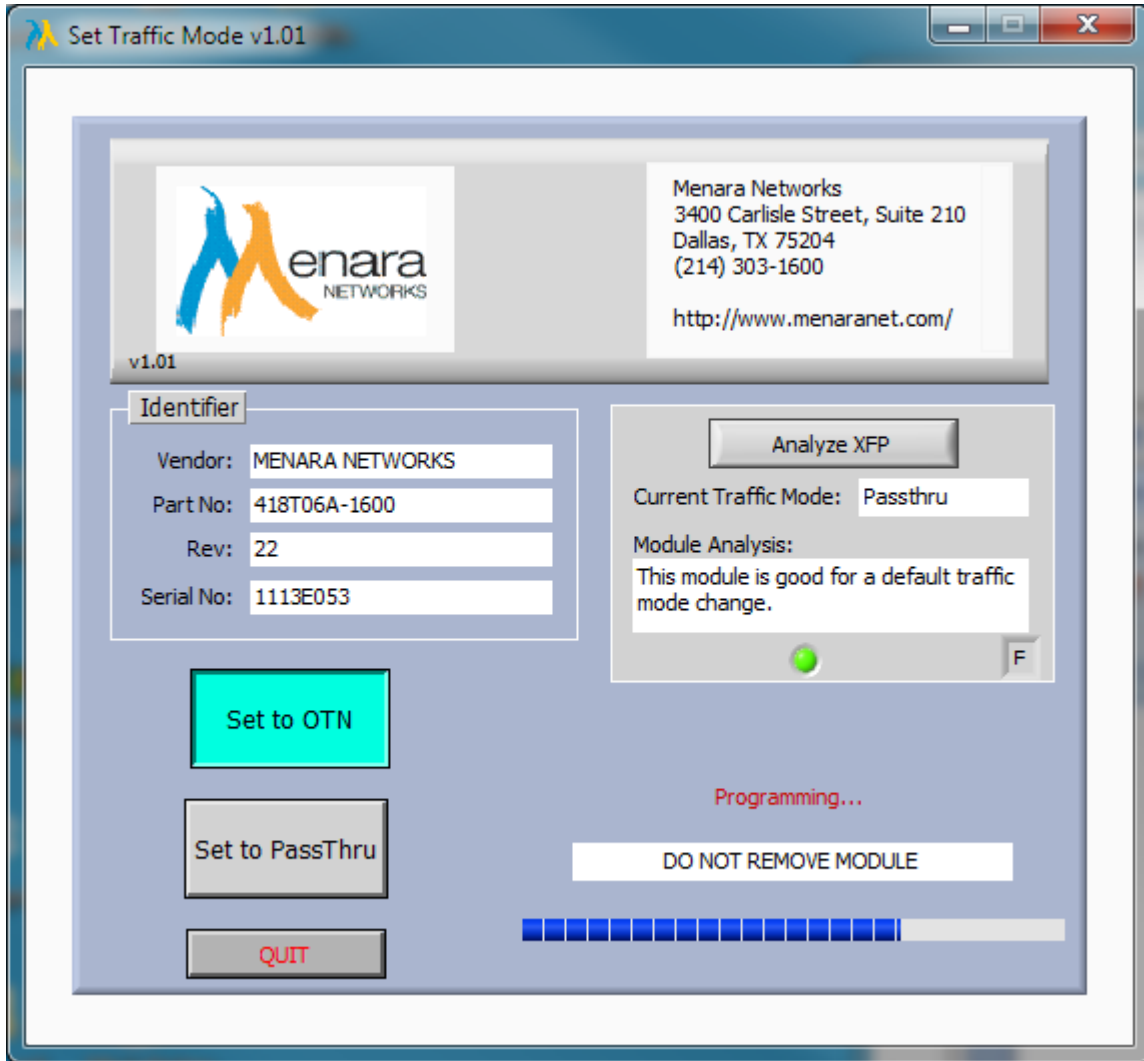

Figure 12: Traffic Mode Setting GUI – Set Default Traffic from PassThru to OTN Mode
- Select traffic mode to switch to as shown in Figure 12.